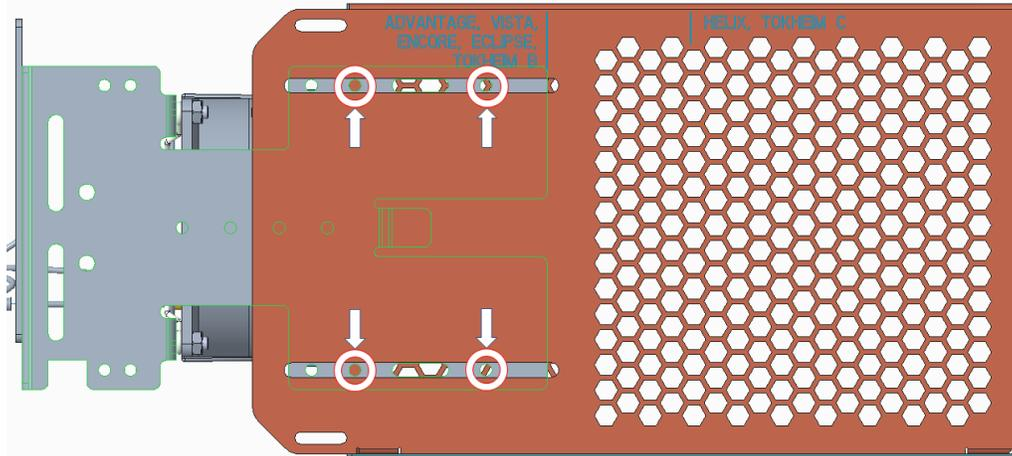

Figure 5
- 6) Insert and tighten four of the thread forming 006-8626667 screws at the locations shown in Figure 5 to secure the wire guard (497-0522796) to the NCR heater assembly.